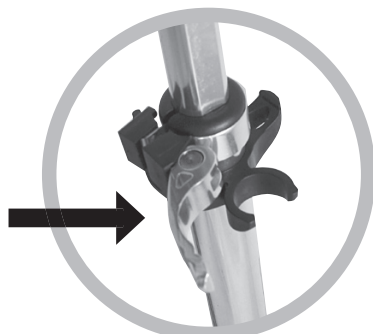

Fig. 5
5. Loosen the quick-release lock at the handlebar stick by pushing away the lever of the quick-release lock from the handlebar until the lever is located parallel to the handlebar grip. (Fig. 5)